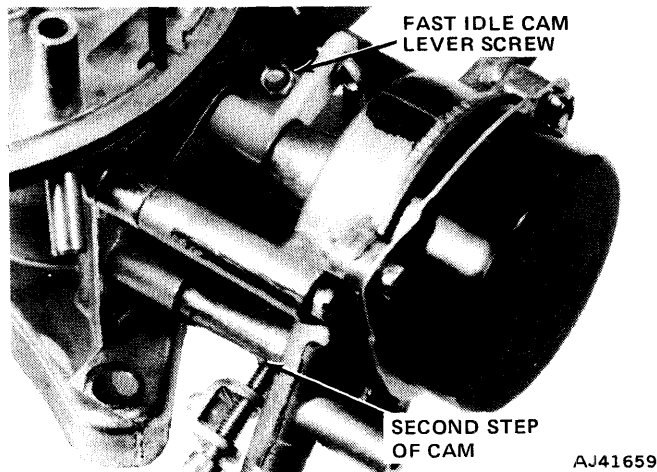

Fig. 4-82 Fast Idle Cam Linkage Adjustment
(1) Push down on fast idle cam lever until fast idle speed adjusting screw is in contact with second step (index) and against shoulder of high step.
(2) Measure clearance between lower edge of choke valve and air horn wall (fig. 4-82). Refer to Carburetor Service Specifications for the correct setting.